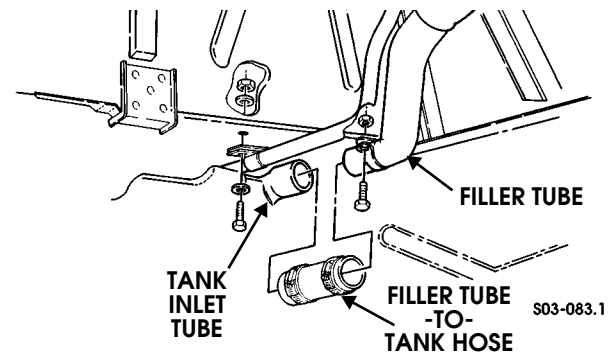

Figure 3-45: Filler Tube-To-Tank Attachment (All)
4. Loosen clamps and remove hose from tank and filler (Figure 3-45).